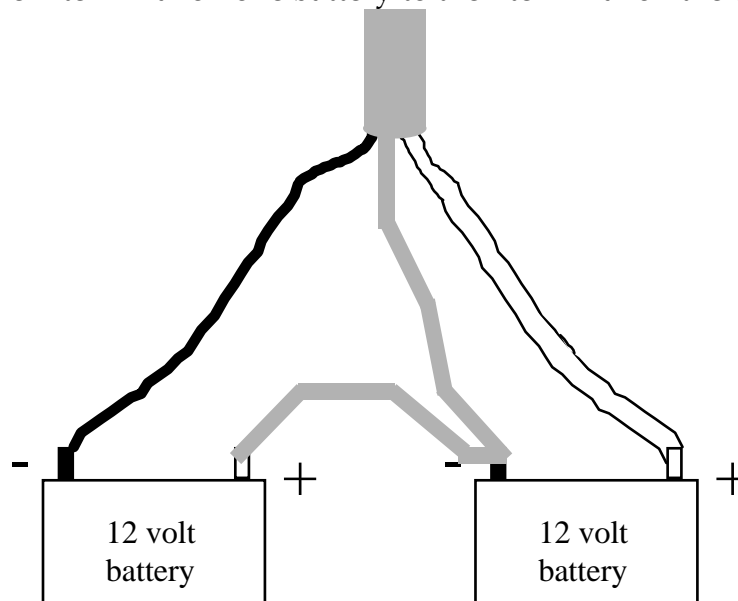

Figure II.3 -- Power cable connections.
Make sure the power is *not* plugged into the power cable receptacle (6). Attach the spade ends of the power cable to the two 12 volt batteries as illustrated in Figure II.3 below. The black wire is connected to -12 volts, the white wire to +12 volts, and the two-connector silver uninsulated wire is connected as the power ground tying the + terminal on one battery to the - terminal on the other.